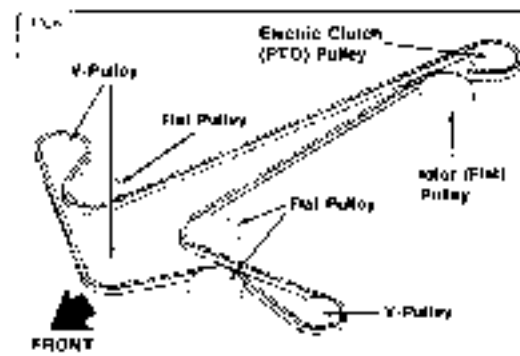

Figure 28. Mower Belt Routing
3. Connect wire harness to electric clutch. Refer to figure 28. Secure wire to belt stop with retainer ties. If ties are damaged, tape wire securely at top and bottom of belt stop.